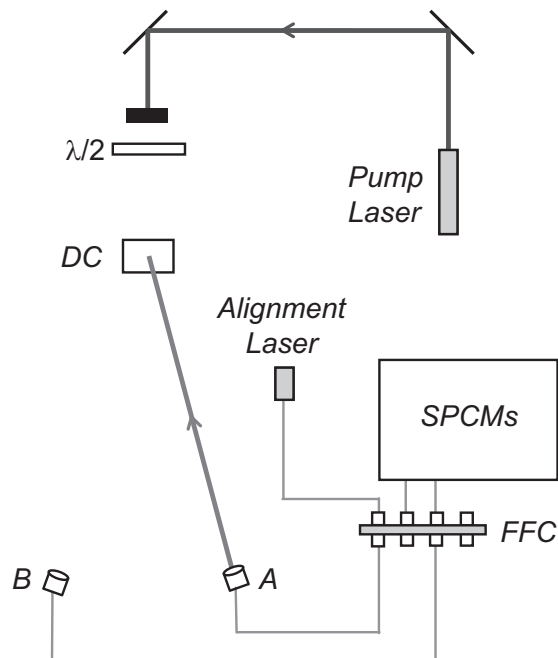

Fig L1.4 Using the alignment laser. The beam should travel backward from the collection optics, and onto the downconversion crystal.
- The fiber from the **A** collection optics leads to a fiber-fiber coupler, where it joins another fiber which leads to the filters and a SPCM. Unscrew the fiber coming from the **A** collection optics, and connect it instead to the fiber leading from the alignment laser, as shown in fig. L1.4. **Please do this carefully**, so that you don't scratch the fiber tip.
- Connect the fiber from the collection optics for detector-**B** to the alignment laser at the fiber-fiber coupler (similar to fig. L1.4, but with **B** connected instead of **A**).